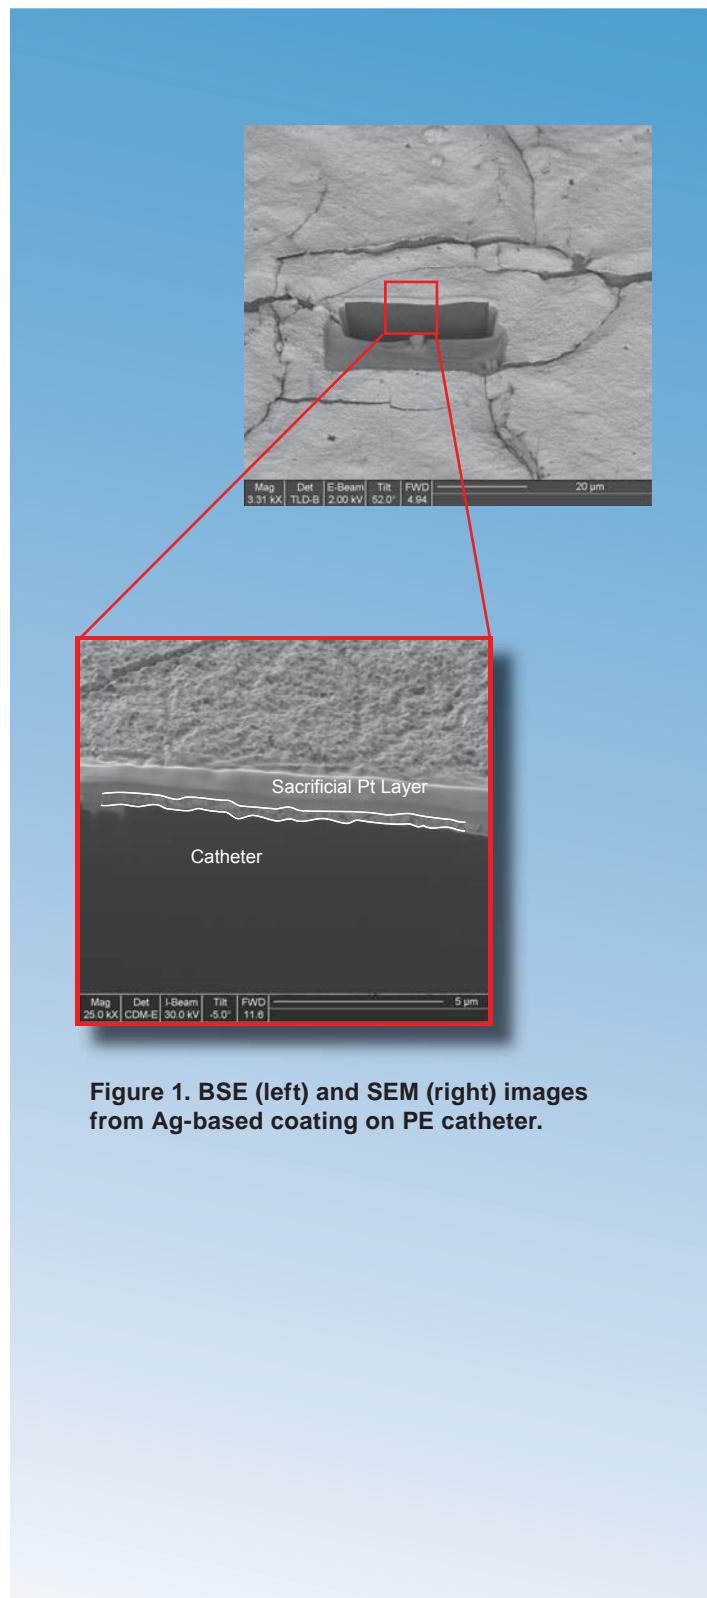

Figure 1. BSE (left) and SEM (right) images from Ag-based coating on PE catheter.
Figure 1 shows photomicrographs from a focused ion beam (FIB) cross-section of a Ag-based antimicrobial coating on a polyethylene (PE) catheter. A backscattered electron (BSE) image overview of the cross-section is shown on the left, with a higher magnification SEM image of the coating on the right. The dotted lines indicate the thickness of the Ag-containing layer, which averages $0.35\ \mu\text{m}$. The grain structure of the coating is also visible in the right hand image. The coating layer is bounded by the underlying polyethylene and by a sacrificial platinum (Pt) layer deposited in the FIB/SEM instrument.